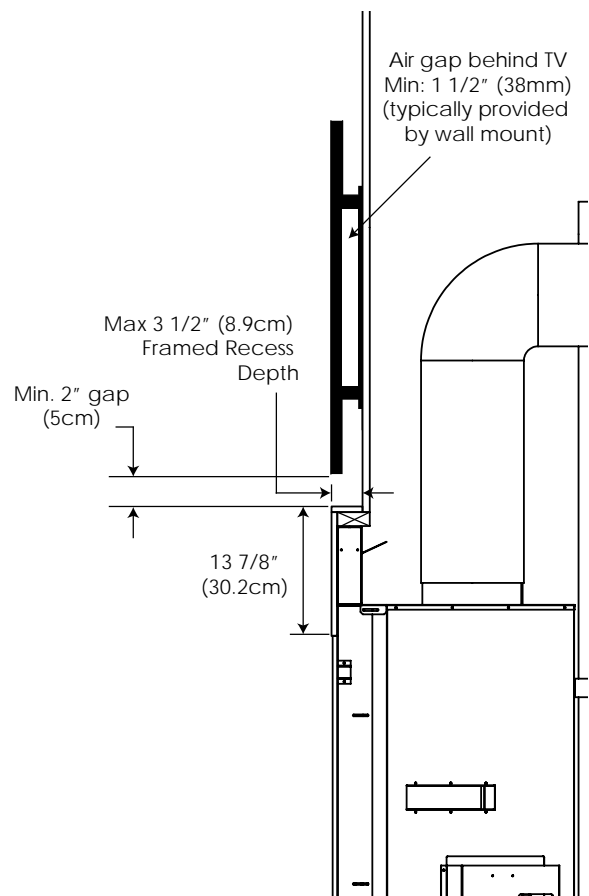

Figure 59: Recess Minimum TV Install
**Recess/Mantel Installation:** Always maintain minimum clearances (see Figure 59). The total depth of the TV and wall mount as well as the recess depth will determine the minimum whether or not a mantel is recommended. A mantel may not be needed if the TV and Mount are low profile enough.